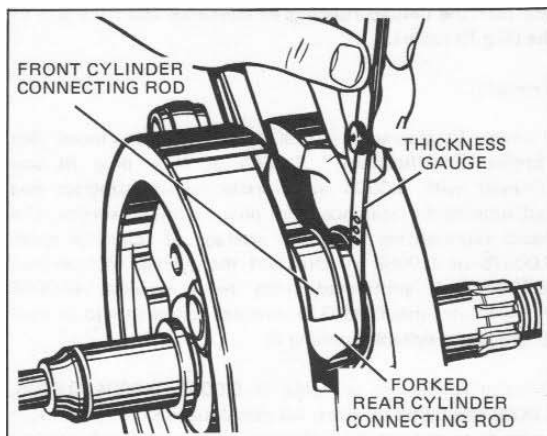

Figure 3-41. Checking Connecting Rod Sideplay
12. If it is impossible to true wheels, check for a cracked flywheel, damaged or enlarged tapered hole, or a sprocket or pinion shaft worn out of round at surface where indicator reading is being taken. When wheels are true, position in vise and draw crank pin nuts very tight using Crank Pin and Flywheel Nut Wrench, Part No. 94546-41. Use torque wrench to finish tightening to 200 ft-lbs torque. Check connecting rod side play with thickness gauge as shown in figure 3-41. If it is greater than tolerance shown in "Engine Specifications," draw up crank pin nuts until within tolerance. Insufficient play between rods and flywheel face is caused by one of the following conditions: